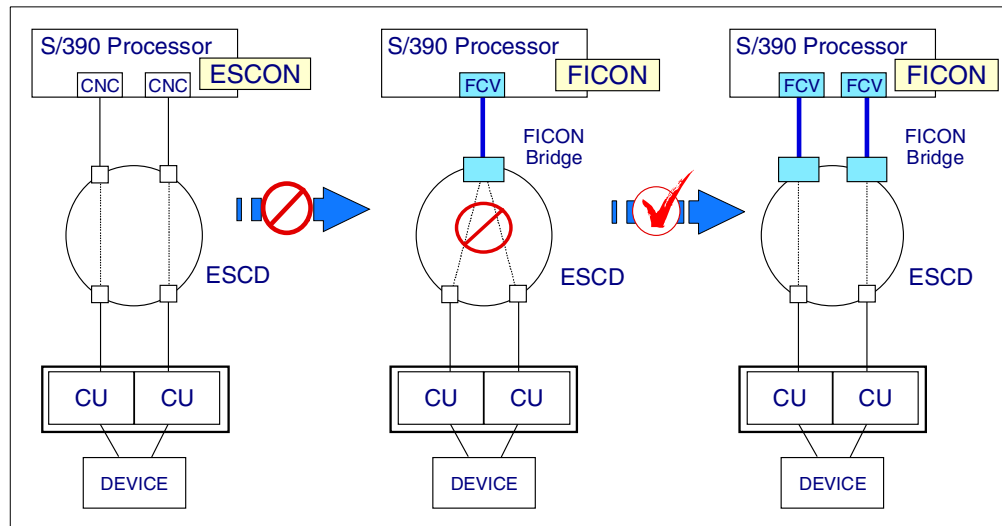

Figure 87. ESCON to FICON (FCV mode) migration - rules
- The same control unit/device cannot be accessed more than once from the same channel path (see Figure 87).